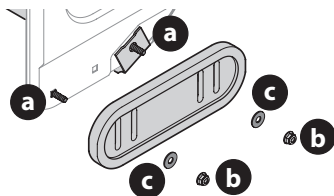

Figure 80
2. Rotate and reassemble new skid shoes with four carriage bolts (a) (two on each side) and hex flange nuts (b) and flat washers (c) (Figure 80).